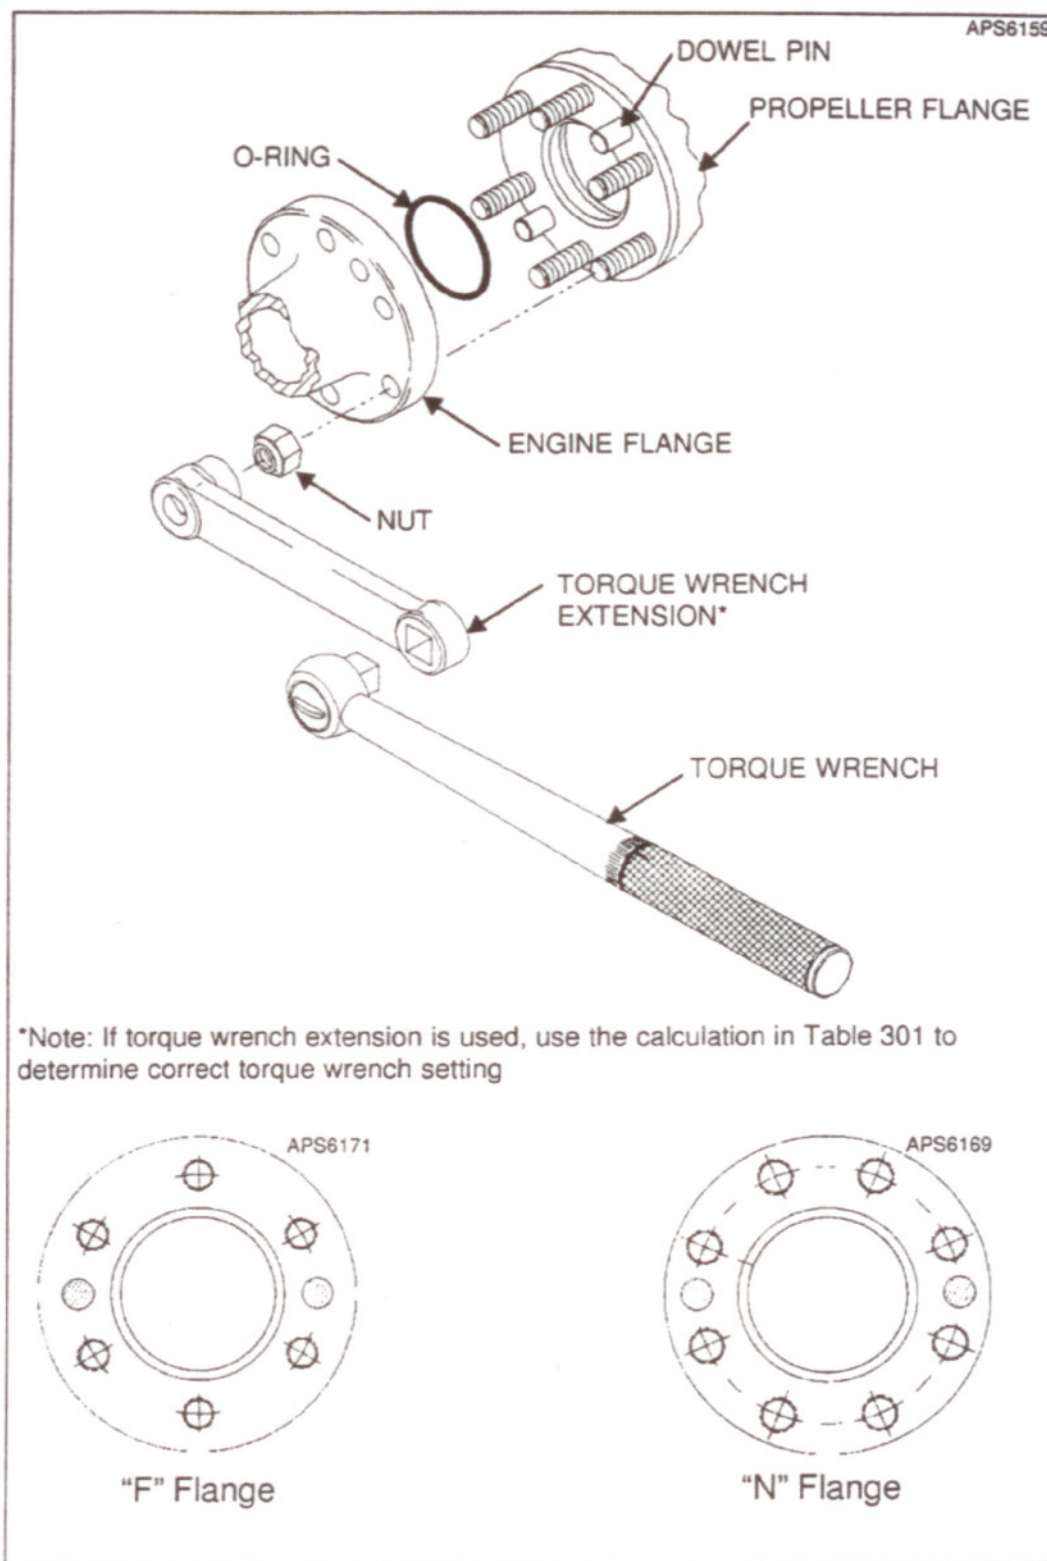

Figure 304 - "F" and "N" Flange Propeller Mounting
Compact propellers are manufactured with five basic hub mounting flange designs. The flange type designators are F, K, L, N, or R. The flange type used on a particular propeller installation is indicated in the propeller model stamped on the hub. For example, HC-C2YF-4A indicates an "F" flange. Refer to Aluminum Hub Propeller Model Identification in the Description and Operation Chapter of this manual for description of each flange type. Sample flanges are also shown in Figures 304 and 305.
An "F" flange propeller has six 1/2 inch studs configured in a four inch circle. Two dowel pins are also provided to transfer torque and index the propeller with respect to the engine crankshaft. See Figure 304. The dowel pin locations used on a particular propeller installation are indicated in the propeller model stamped on the hub. Refer to Aluminum Hub Propeller Model Identification in the Description and Operation Chapter of this manual.
- (1) Perform the appropriate steps under Spinner Pre-Installation within this chapter.
- (2) Clean the engine flange and propeller flange with Quick Dry Stoddard Solvent or MEK.
- (3) See Figure 304. Install the O-ring in the O-ring groove in the hub bore. See Table 302 for the proper O-ring.
- (4) Install the propeller on the engine flange. Make certain to align the dowel pins in the propeller flange with the corresponding holes in the engine mounting flange.
An "N" flange propeller has eight $\frac{9}{16}$ inch studs configured in a 4.25 inch circle. Two dowel pins are also provided to transfer torque and index the propeller with respect to the engine crankshaft. See Figure 304. The dowel pin locations used on a particular propeller installation are indicated in the propeller model stamped on the hub. Refer to Aluminum Hub Propeller Model Identification in the Description and Operation Chapter of this manual.
- (3) See Figure 304. Install the O-ring on the engine flange. See Table 302 for the proper O-ring to be installed.